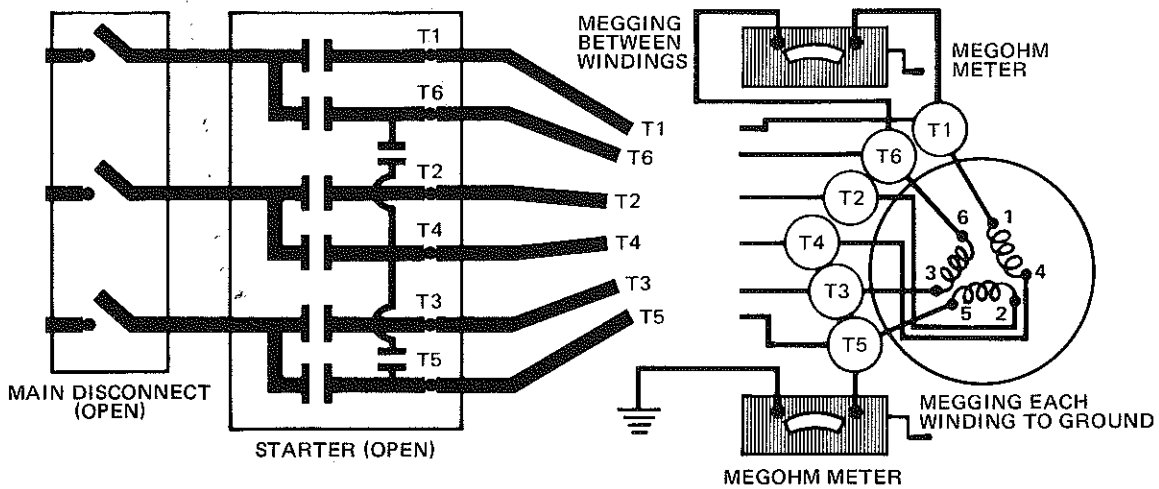
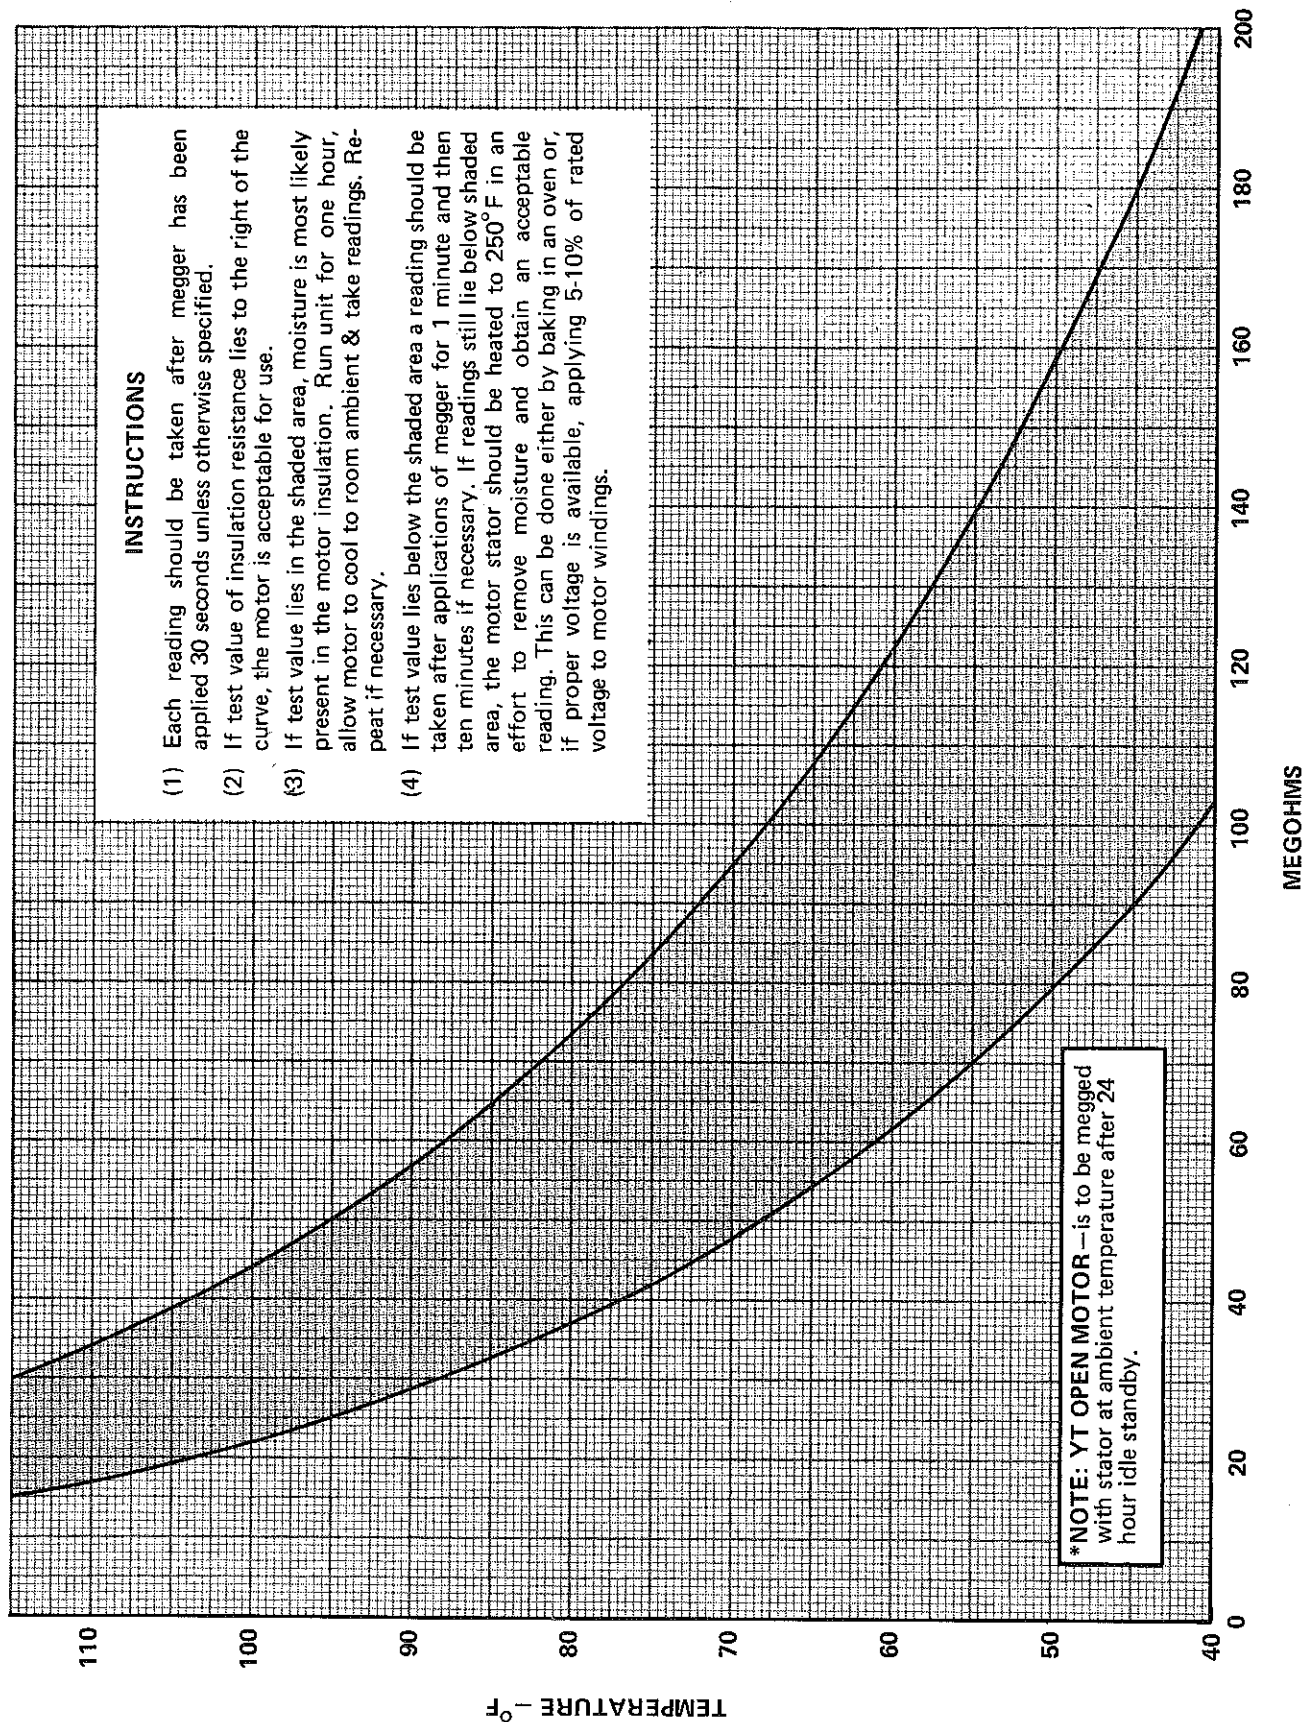

FIG. 18 - DIAGRAM, MEGGING MOTOR WINDINGS
FIG 19 - MOTOR STATOR TEMPERATURE AND INSULATION RESISTANCES
1. Using a megohm meter (megger), meg between phases and each phase to ground (See Fig. 18); these readings are to be interpreted using the graph shown in Fig. 19.